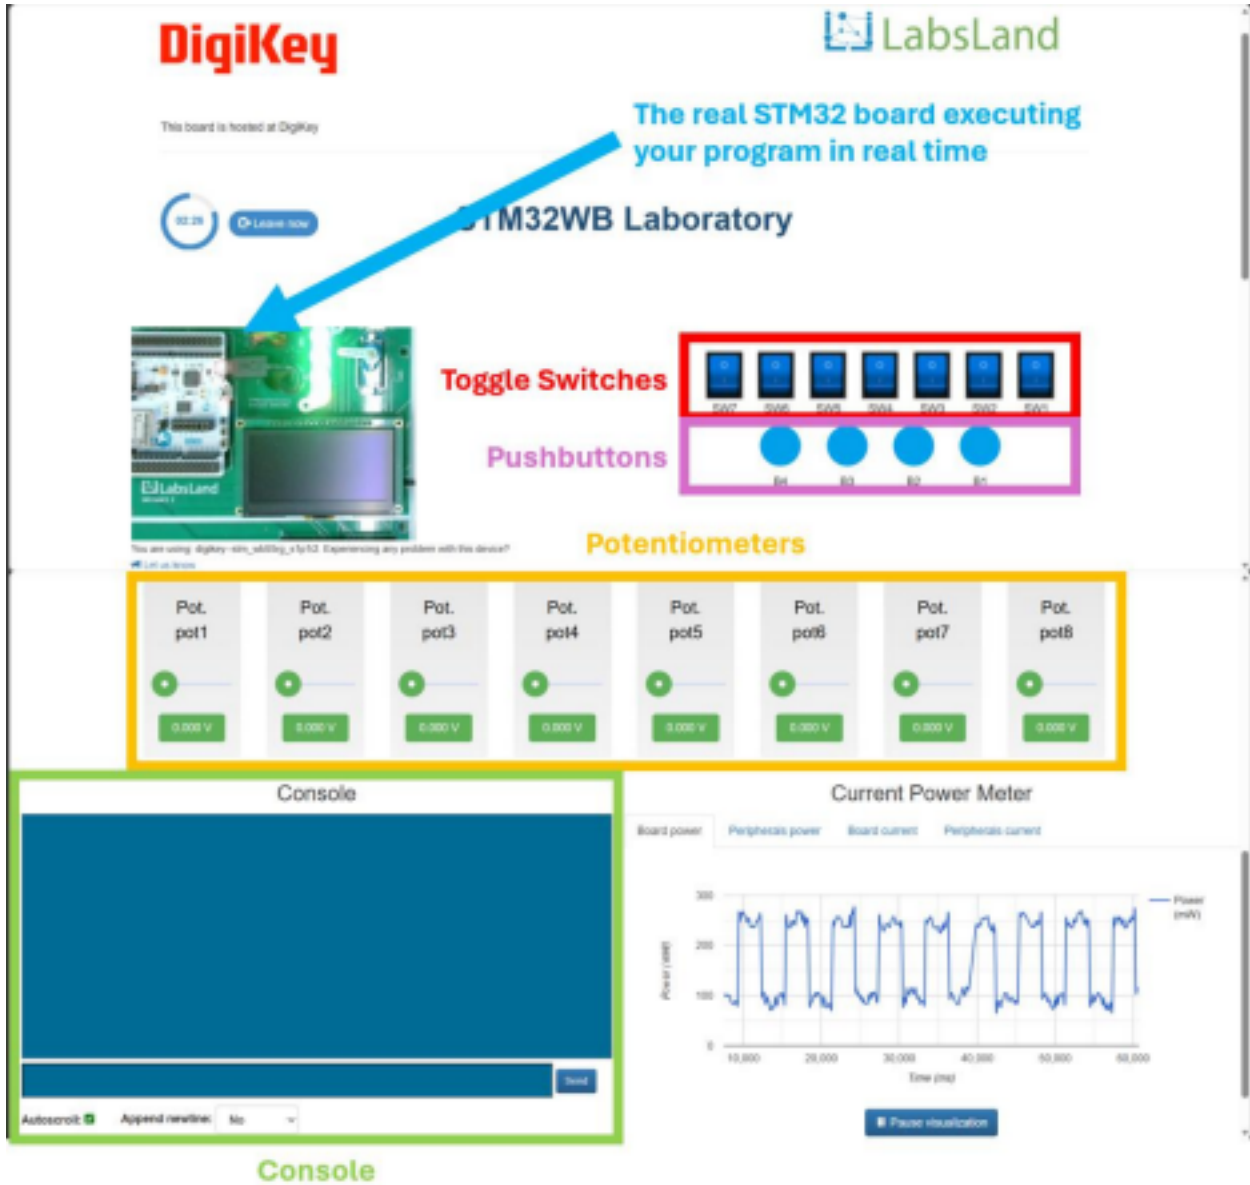

Figure 7
7. Figure 7 shows the remote lab after a program is uploaded. Important sections (toggle switches, pushbuttons, potentiometers, and console window) are highlighted.